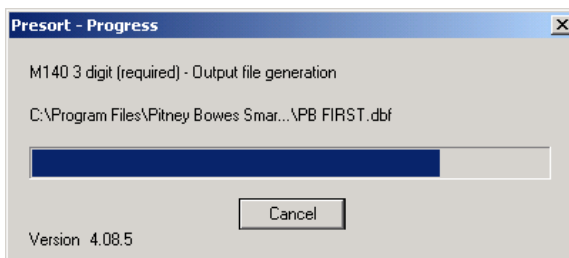

Figure 3-10
2. When postal coding is done, click **OK** to continue. The Presort Progress message box appears showing presort progress (Figure 3-10):